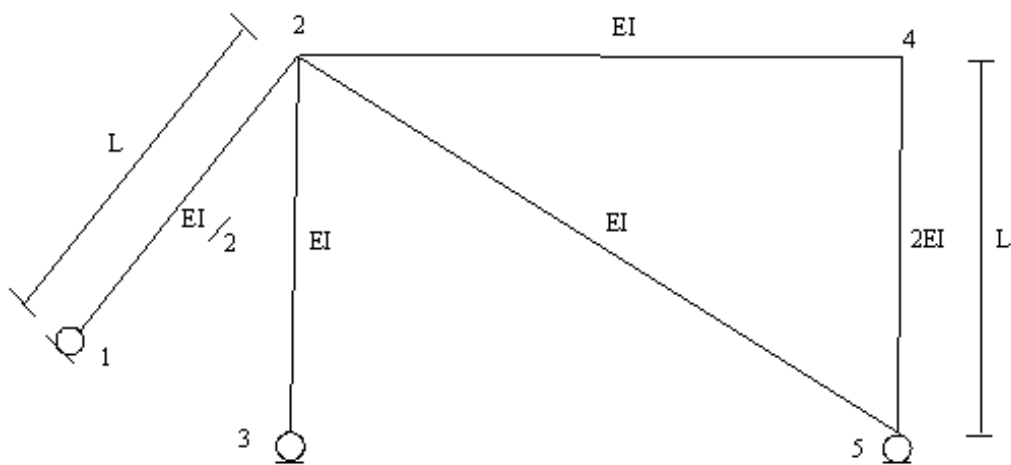

Figure 2
Figure 2 shows a plane beam structure consisting of four beam elements. Only bending stiffness shall be taken into account, i.e. axial and shear deformations should be neglected.
- a) Explain in detail what are the nodal degrees of freedoms $\mathbf{r}$ for the frame shown in Figure 2 when node 1, 3 and 5 are restrained against translations, but free to rotate. What is the difference between the nodes 1, 3, 5 and 2, 4 in your judgement?